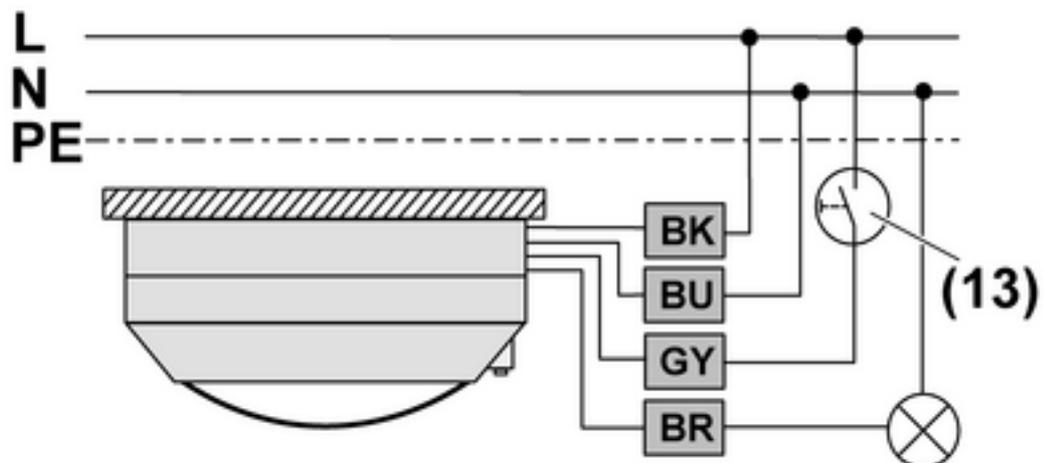

Figure 6: Connection diagram
- Connect presence detector according to connection diagram (Figure 6).
- Connect optional installation button (13) (Figure 6). This is only necessary if manual operation is also desired.